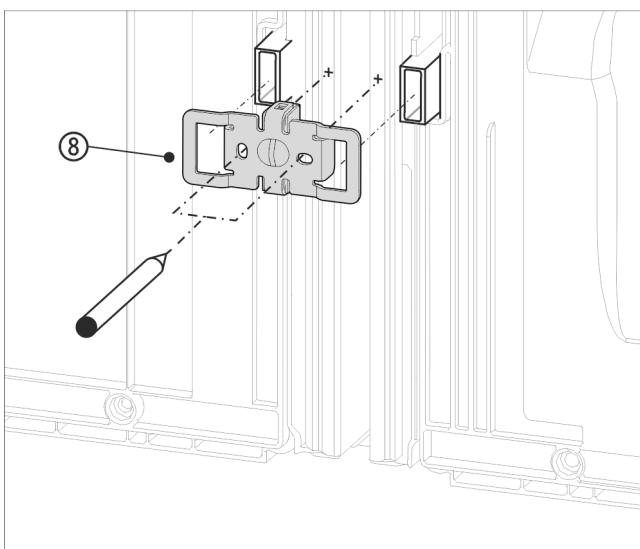

Fig. 15 Example illustration
- ▶ Slide the bracket Fig. 15 (8) with the slots over the retainer for the wall spacers.